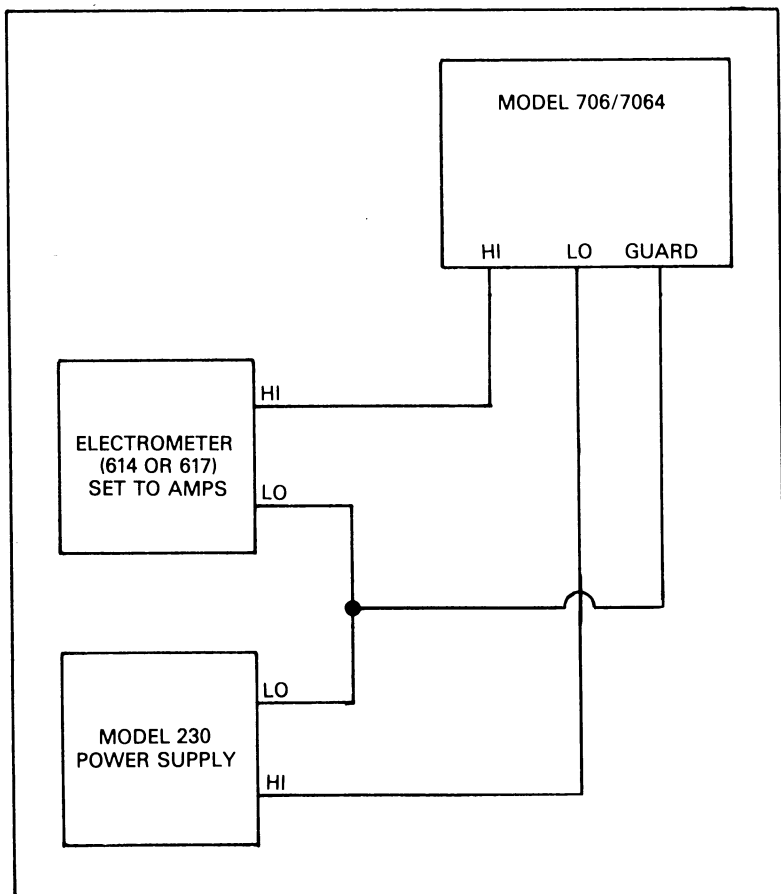

Figure 3-5. Guarded Differential Isolation Configuration
1. This test measures the differential input isolation which is the leakage resistance between a guarded channel's HI and LO connections. Set up the configuration in Figure 3-5.